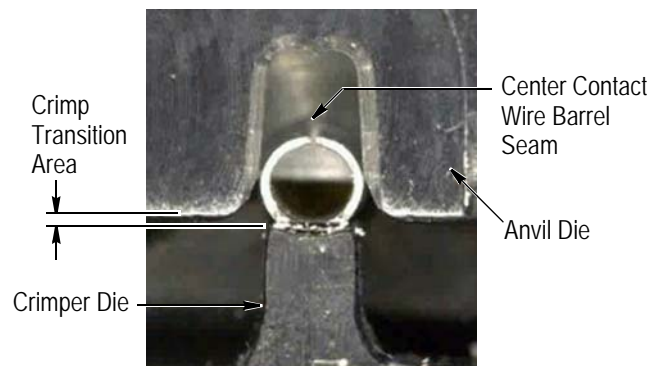

Figure 6
4. Slowly squeeze the tool handles together until the anvil die starts to enter the crimp transition area (usually by two audible “clicks” from the tool ratchet). DO NOT deform the wire barrel of the center contact. See Figure 6.